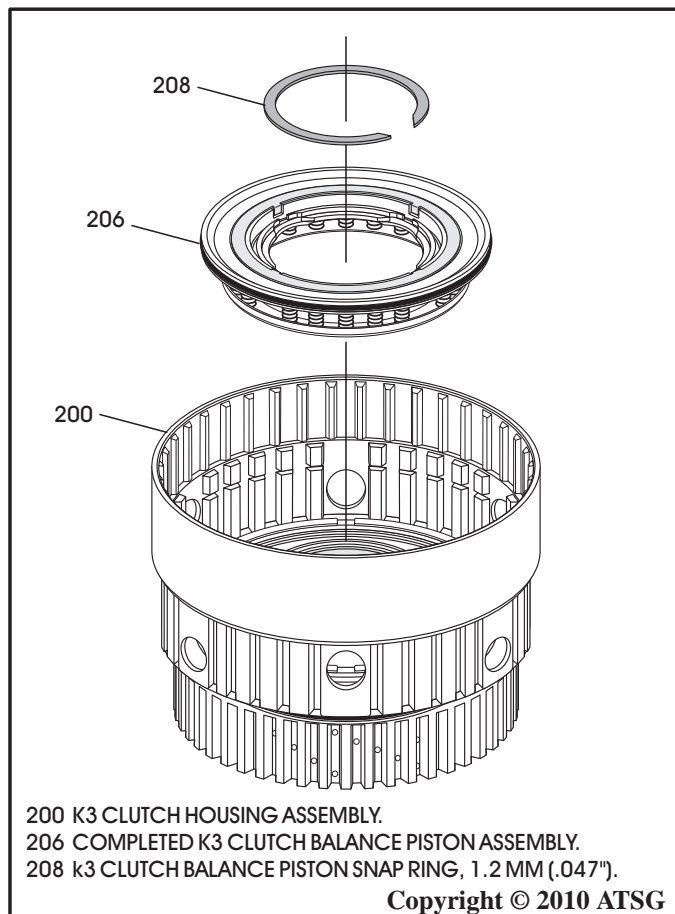

Figure 138
9. Install the completed K3 balance piston and return spring as an assembly, as shown in Figure 138.
10. Compress the balance piston and return spring and install the retaining snap ring, as shown in Figure 138.